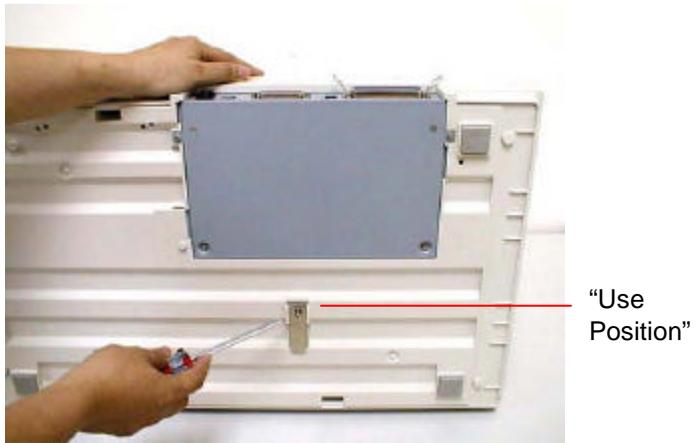

Figure 2-2 Fasten the shipping retainer.
3. Pull out the shipping retainer and put it in the "use position" (See Figure 2-2) and secure it with the screw.